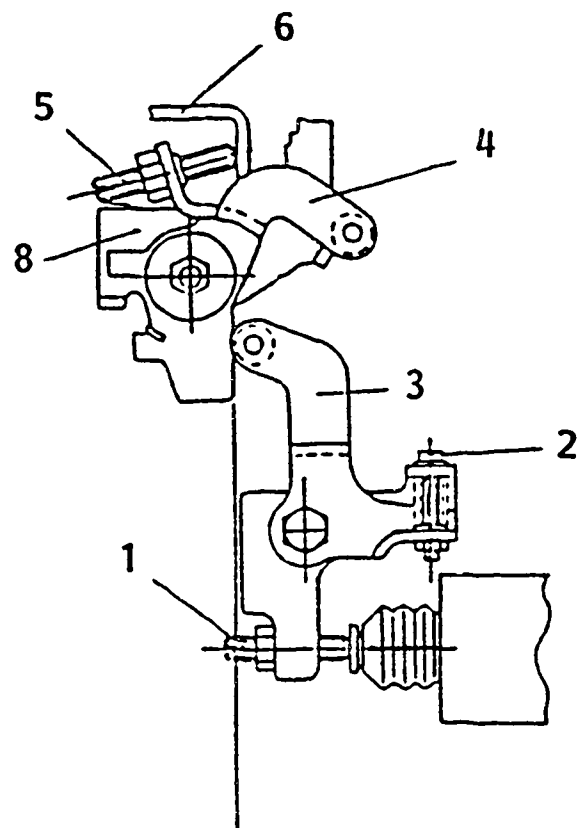

Fig. 45
1. Timer stroke adjustment (Fig. 45)
Formula for calculating (Fig. 45)
## 2. Adjustment of intermediate lever position (see Figs. 45 and 46)
## 3. Adjustment of CSD lever (see Figs. 45 and 46)